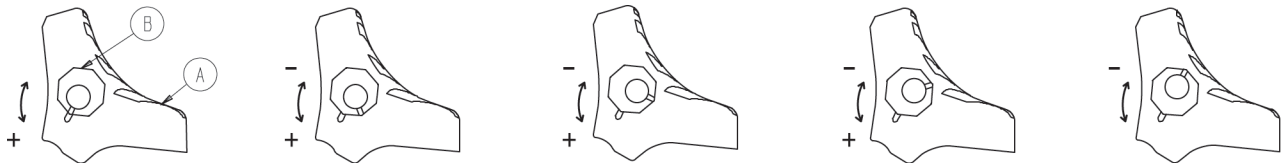

Figure 3 – Wheel locking force adjustment
1. Using a 5/32" hex wrench and 7/16" combination wrench or socket, remove the socket screw from the center of the lock pedal. Save the screw. The wheel lock is initially assembled with the pedal set at the minimum locking force. The marker on the pedal (A) is aligned with the marker on the octagonal sleeve (B) (Figure 3).
2. Remove the octagonal sleeve (B). Rotate the octagonal sleeve counterclockwise to increase the pedal locking force and clockwise to decrease the locking force. Insert the octagonal sleeve into the pedal.